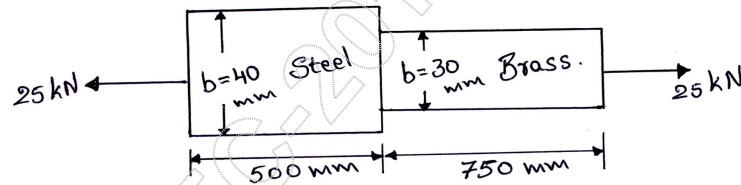

Fig.Q1(b)
- b. A stepped bar made up of steel and brass is subjected to a pull of 25kN as shown in Fig.Q1(b). Determine the deformation of each material and stress in each material. Take, $E_S = 200\text{GPa}$, $E_B = 100\text{GPa}$. Thickness = 20cm. (10 Marks)